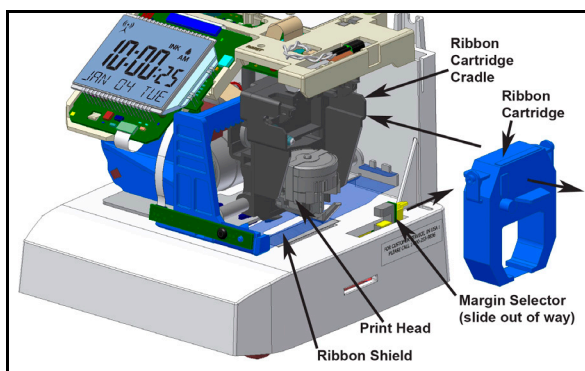

Figure 3: Ribbon Cartridge Cradle Location.
The Amano PIX-75 clock in Figure 3 shows a typical layout with the ribbon cartridge removed from the cradle.
Step 2. Pull the ribbon cassette out of the cradle (see Figure 3 on page 2-3).
Step 5. To reset the INK indicator, press and hold the **ENTER** button for three (3) seconds.
Note – If the print mechanism is down (a piece of paper could not be inserted), press the **RESET** button to move the carriage to the up position. This will make the ribbon cartridge installation easier. **The Margin Selector (see Figure 3 above) can be moved toward the rear of the clock to provide more clearance for ribbon replacement.**